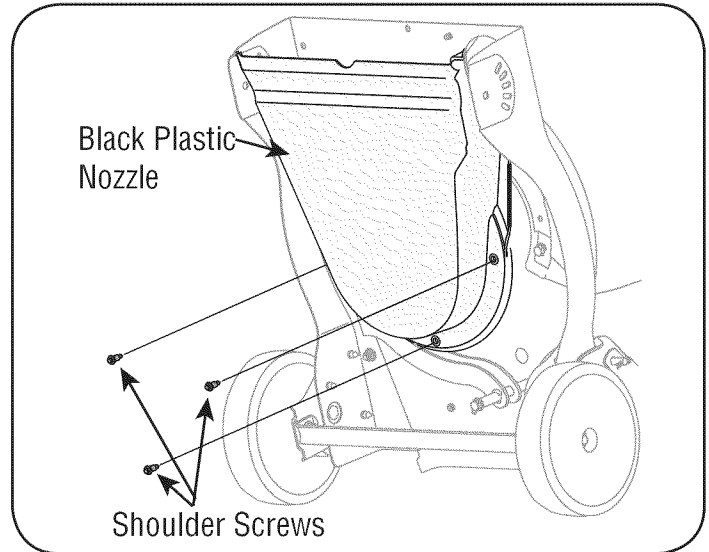

Figure 27
7. Carefully tilt and support the unit up to provide access underneath to the nozzle mounting hardware and impeller. Remove the three shoulder bolts securing the black plastic lower flail housing to the lower housing. Refer to Figure 27.